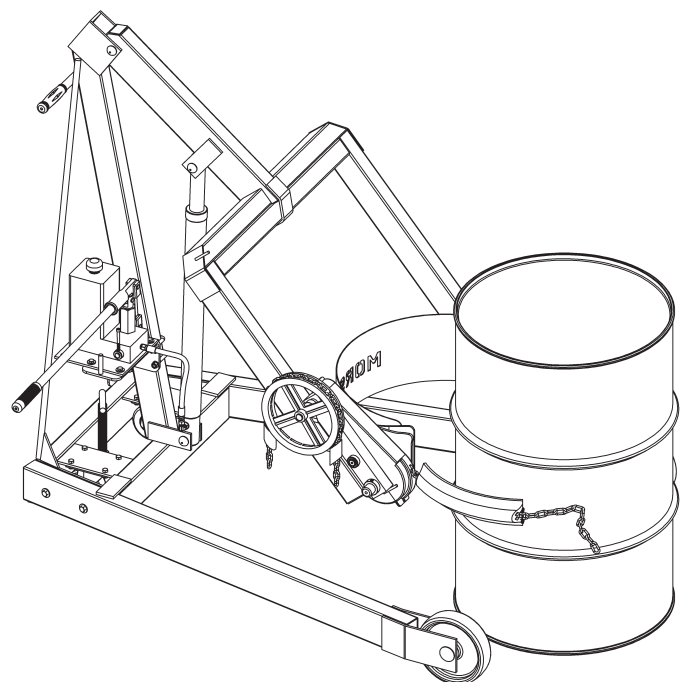

Figure 3.1
The screw-down floor lock is located on the base of the tower (figure 3.1). Turning the floor lock clockwise until it locks in the down position activates the floor lock. When the floor lock is activated it prevents unwanted free wheeling of the unit. Floor conditions determine the effectiveness of the floor lock. The operator should verify its holding action before depending on it to hold.
2. Using the "LIFT" control as described in "Machine Description - Controls" (page 3) , position the drum holder assembly with the back band at the middle of the drum (Figure 3.1). With the ratchet plate swung open and the cinch chain hanging from the chain hook, push the unit until the back band rests firmly against the drum. Some adjustment to the tilt angle of the saddle may be necessary to ensure band fits flush on the drum.